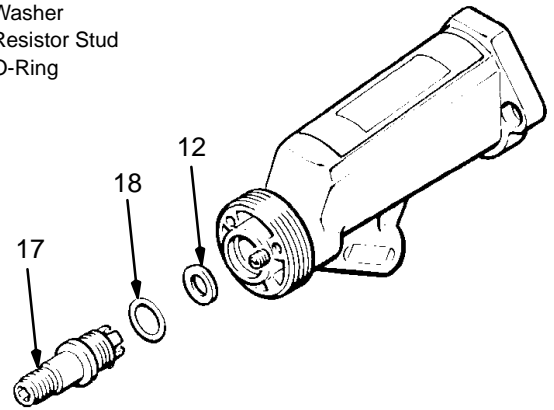

Fig 11
3. Using the wrench (59h) supplied, unscrew and remove the resistor stud (17) with the o-ring (18) and washer (12). See Fig 11.